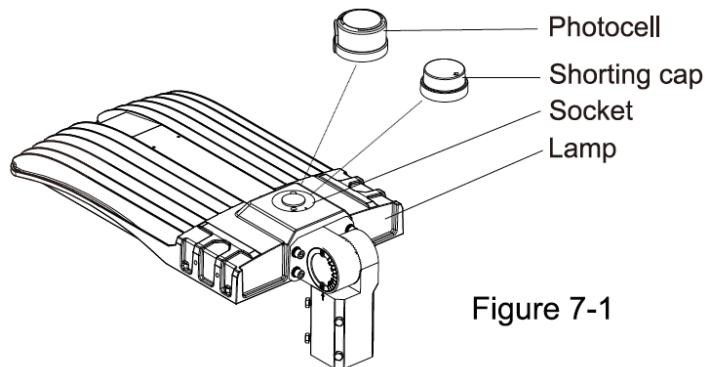

Figure 7-1
**Attention:** When the photocell function is required, photocell should be installed on the back of lamp; When it's not required, shorting cap should be installed on the back of lamp (Figure 7-1)